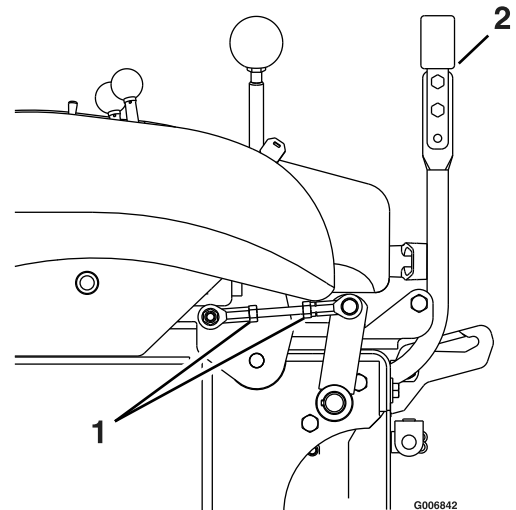

Figure 17
- Pull the speed control lever completely back to the neutral position. The two steering levers should be straight up and down (vertical). If necessary, adjust steering levers by changing the length of the link between the speed control lever and the control arm on the end of the steering control shaft (see Figure 17).